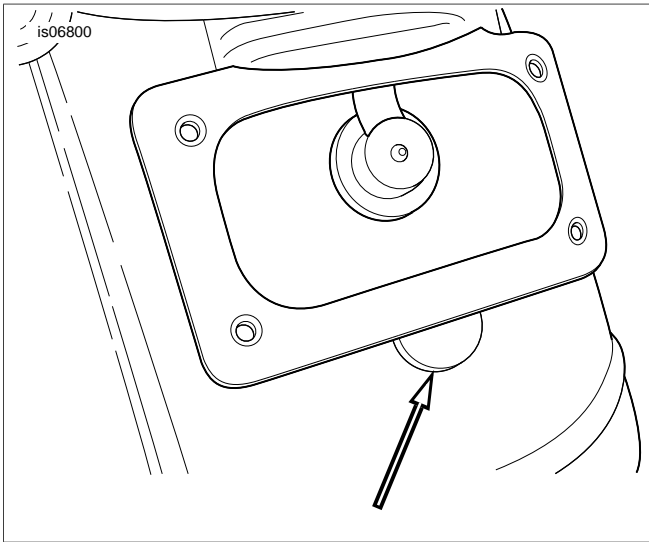

Figure 3. Bumper Pad Locations
5. See Figure 3. Place the 1/2 inch (1.3 mm) bumper pads between the installed back plate and the rear fender bumper.